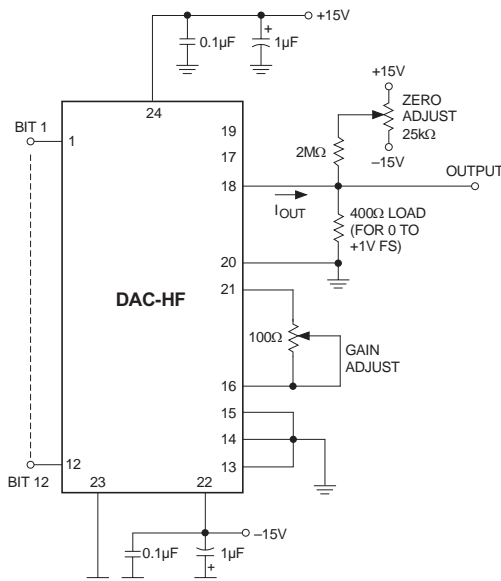

Figure 2. Unipolar Current Output Connections
1. Connect the converter as shown in Figure 2.